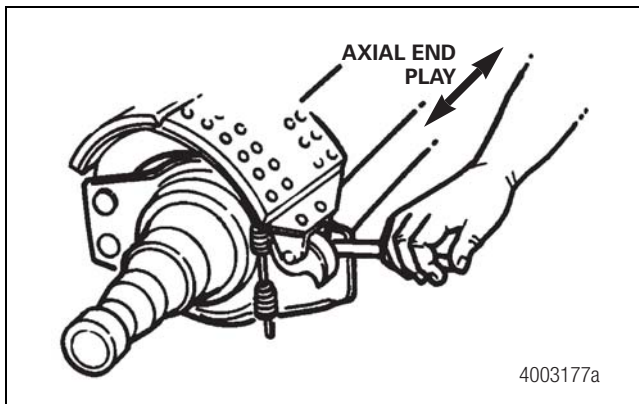

Figure 4.4
- Check the axial end play of the camshaft. If total movement is more than 0.060-inch (1.52 mm), replace the bushings, camshaft or both as specified in Section 12. Figure 4.4.